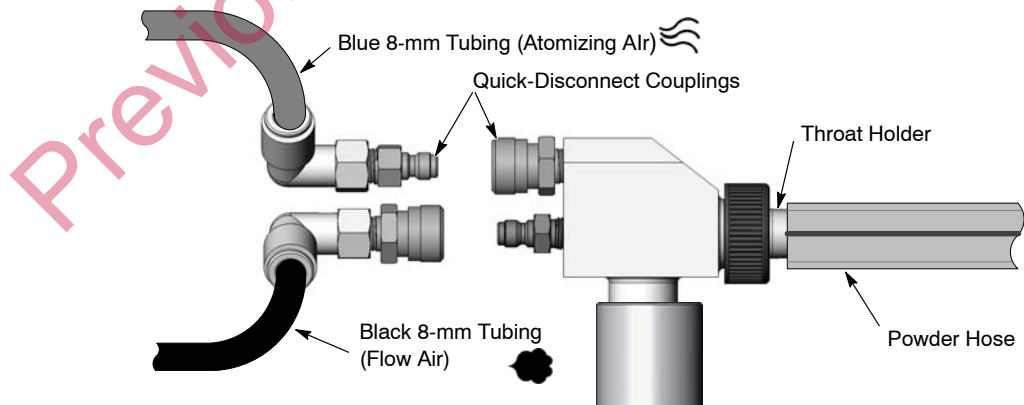

Figure 3-9 Pump Connections
1. See Figure 3-9. Plug the 8-mm blue atomizing air and 8-mm black flow air tubing into the pump tube fittings as shown.